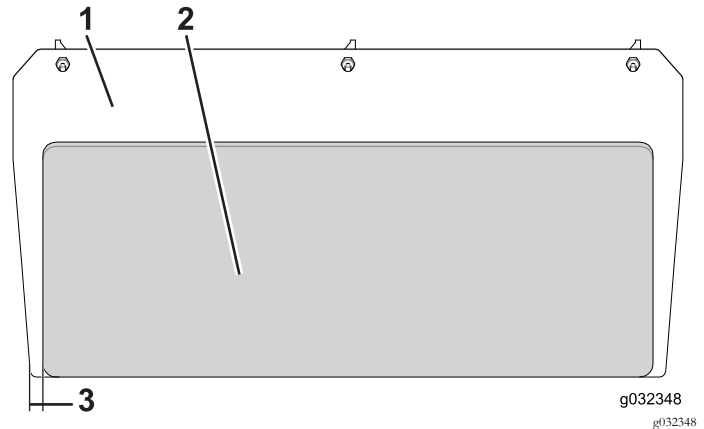

Figure 8
4. Remove the backing and apply the rear-panel shield to the engine side of the rear panel (Figure 8).
Note: Center the rear-panel shield along the width of the plate leaving 29 mm (1-1/8 inches) from each edge (Figure 8).